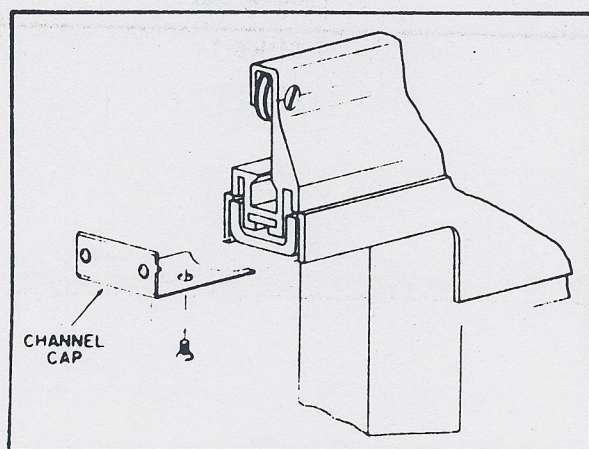

FIGURE 16
3. Remove channel cap. See Fig. 16.